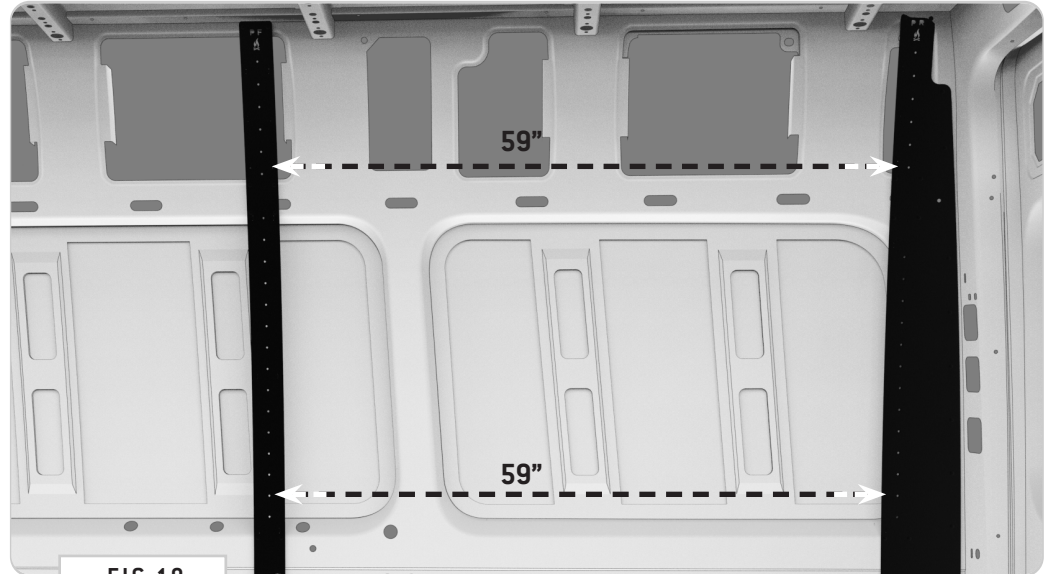

FIG 10
5.1 Measure Bracket Spacing: Once you have the **Bed Brackets** held in place, you'll need to confirm that the distance between rail mounting points are square at 59" thread insert to thread insert (**FIG 10**).